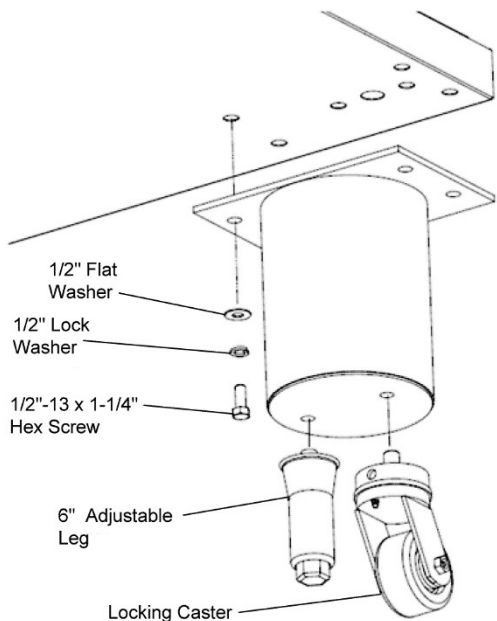

Figure 19. Leg Extension and Caster Installation
1. Install the four leg extensions onto the base pad using the 1/2"-13 x 1-1/4" hex screws, 1/2" flat washers and 1/2" lock washers supplied in the base pad kit. See Figure 19. Check that the orientation of the adjustable 6" leg holes in the leg bottom is consistent (all to the inside or all to the outside). The adjustable leg mounting hole is closer to the edge of the leg than the caster mounting hole. Install the spring clip for the oven restraining cable to the hole in the bottom middle of the base pad. This clip will attach to the restraint cable that keeps the oven from moving too far when installed on casters.